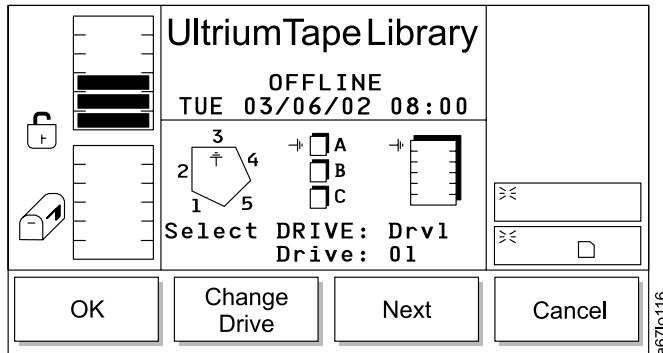

Figure 86. Change Drive Dialog
**Note:** If the chosen column element is a drive (column 3), no slot or magazine parameters are available. The current source parameter changes from column to drive and the Change Drive Dialog displays (see Figure 86).